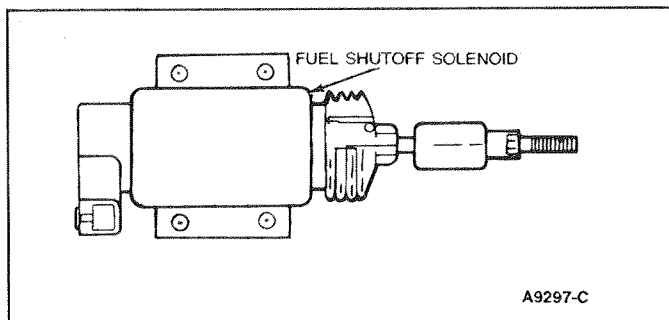

Figure 25 Fuel Shutoff Solenoid Terminals
6. Disconnect the electrical connector at the bottom of the fuel shutoff solenoid (Figure 25) and cover with tape. This must be done to shut off the flow of fuel to the engine during cranking.